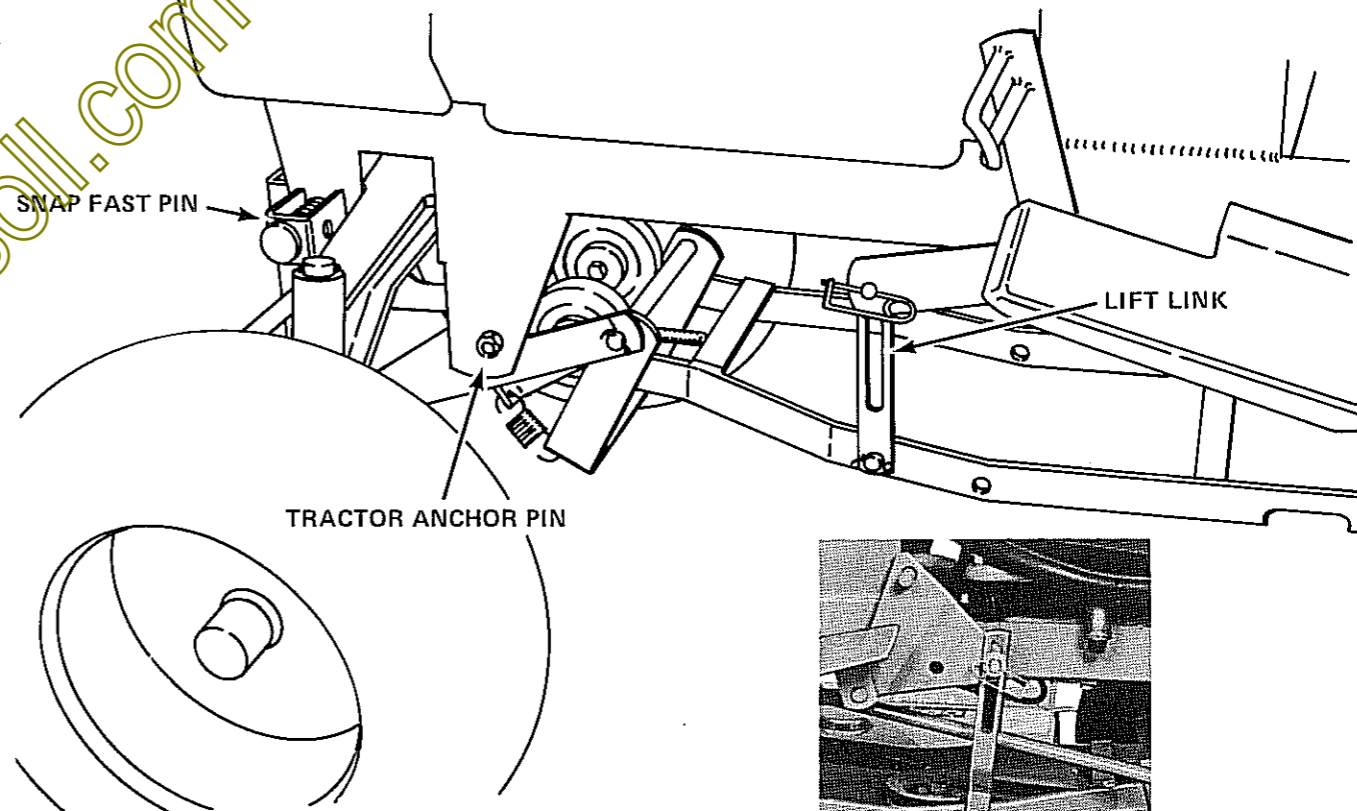

FIGURE 16 MOUNTING THE L44 MOWER MOUNTING BRACKET
3. See Figure 16. Put the mounting bracket under the front of the tractor. Raise and install the mounting bracket on the mounting pins. Align the holes in the mounting bracket with the "snap fast pins". Release the "snap fast pins" to hold in place.
4. Completely lower the lift arms on the tractor. On all models except the 226, 444, 446 and 448, put the lift links on the inside of the lift arm. See Figure 16. Put a plain washer on the clevis pins. From the inside install: